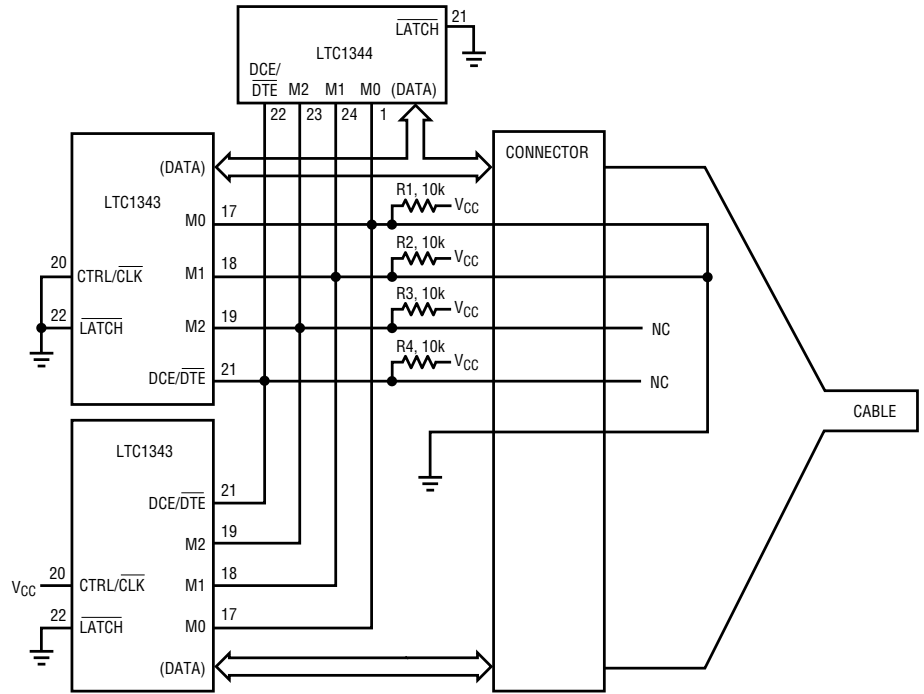

Figure 11. Mode selection by cable
The interface protocol may be selected by simply plugging the appropriate interface cable into the connector. The mode pins are routed to the connector and are left unconnected (1) or wired to ground (0) in the cable, as shown in Figure 11.